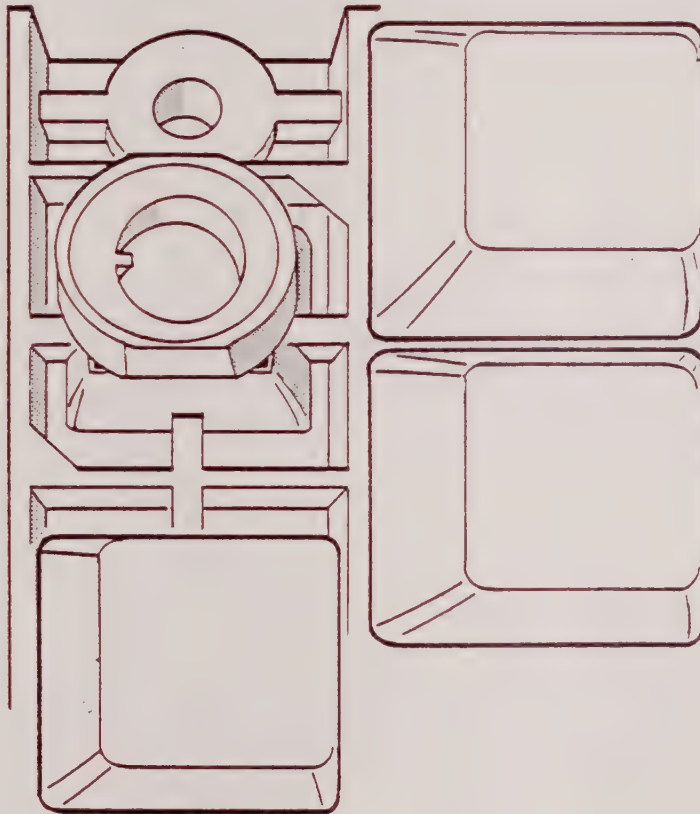

Figure 5-2. Insertion Tool Guideway
8. Place the insertion tool guide in the switch housing, making sure that the keyway is towards the front of the keyboard (see figure 5-2).